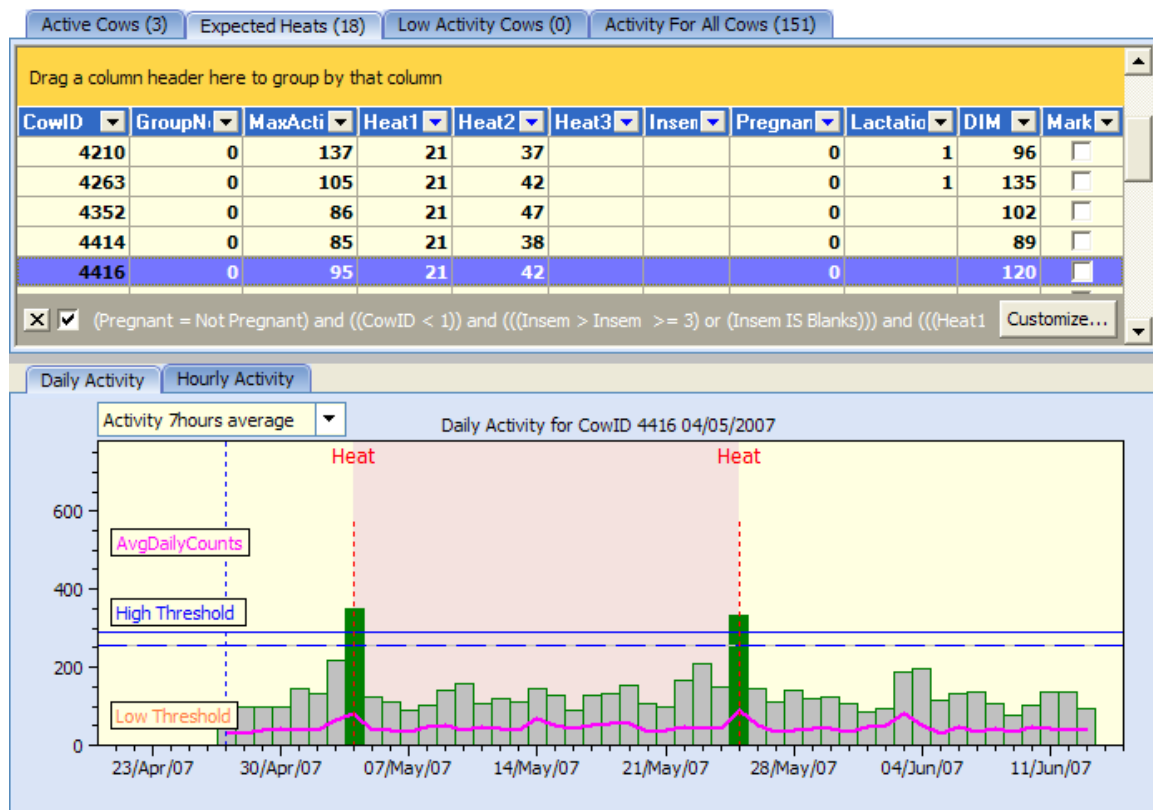

Figure 21 Main Screen.
- a. Right click on the activity bar corresponding to the date you wish to enter the event for on the graph at the bottom half of the screen shown in Figure 21 above.